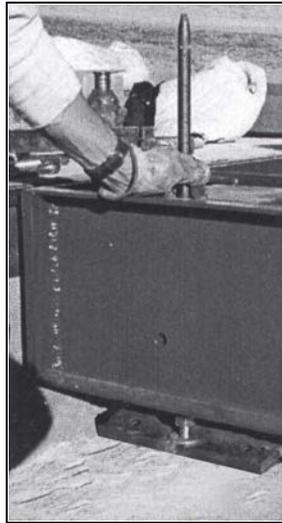

Figure 4-10. Seating Anchor Bolts on Baseplate
7. Install one washer and one nut on each anchor bolt; place a driver pipe on top of the anchor bolt and use the long punch to seat anchor bolts against baseplate (Figure 4-10 on page 13)